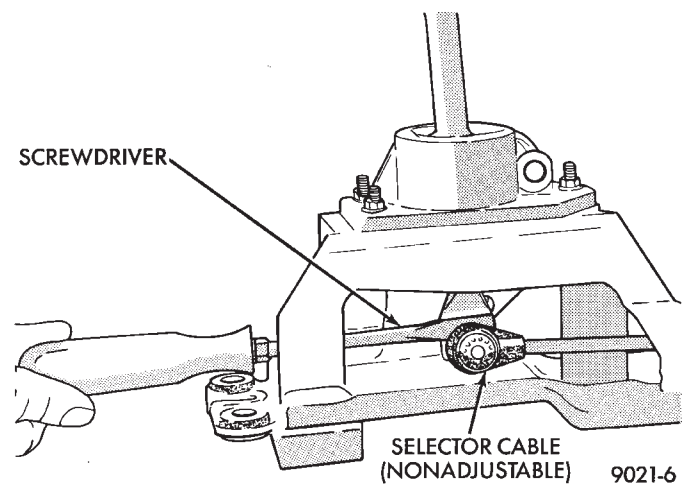

Fig. 8 Remove Cables
(5) Remove or install selector and crossover cables (Fig. 8 or 9).